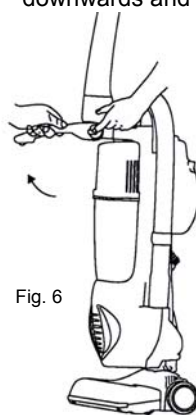

Fig. 6
1. To remove the dust cup container, press on the dust cup retainer handle release button and lift the retainer handle upwards. (Fig. 6)